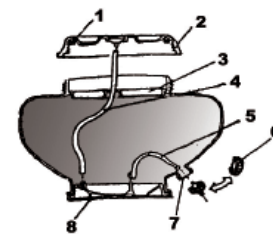
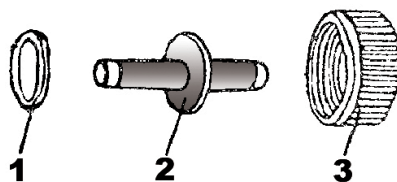

Fig. 2
Fig. 3
- Remove the lower cover of chemical tank, change into the pressing lid which is connected with rubber tube (do not forget to put on the sealing ring, as Fig.3). Connect the lid to the rubber tube as shown in Fig .2